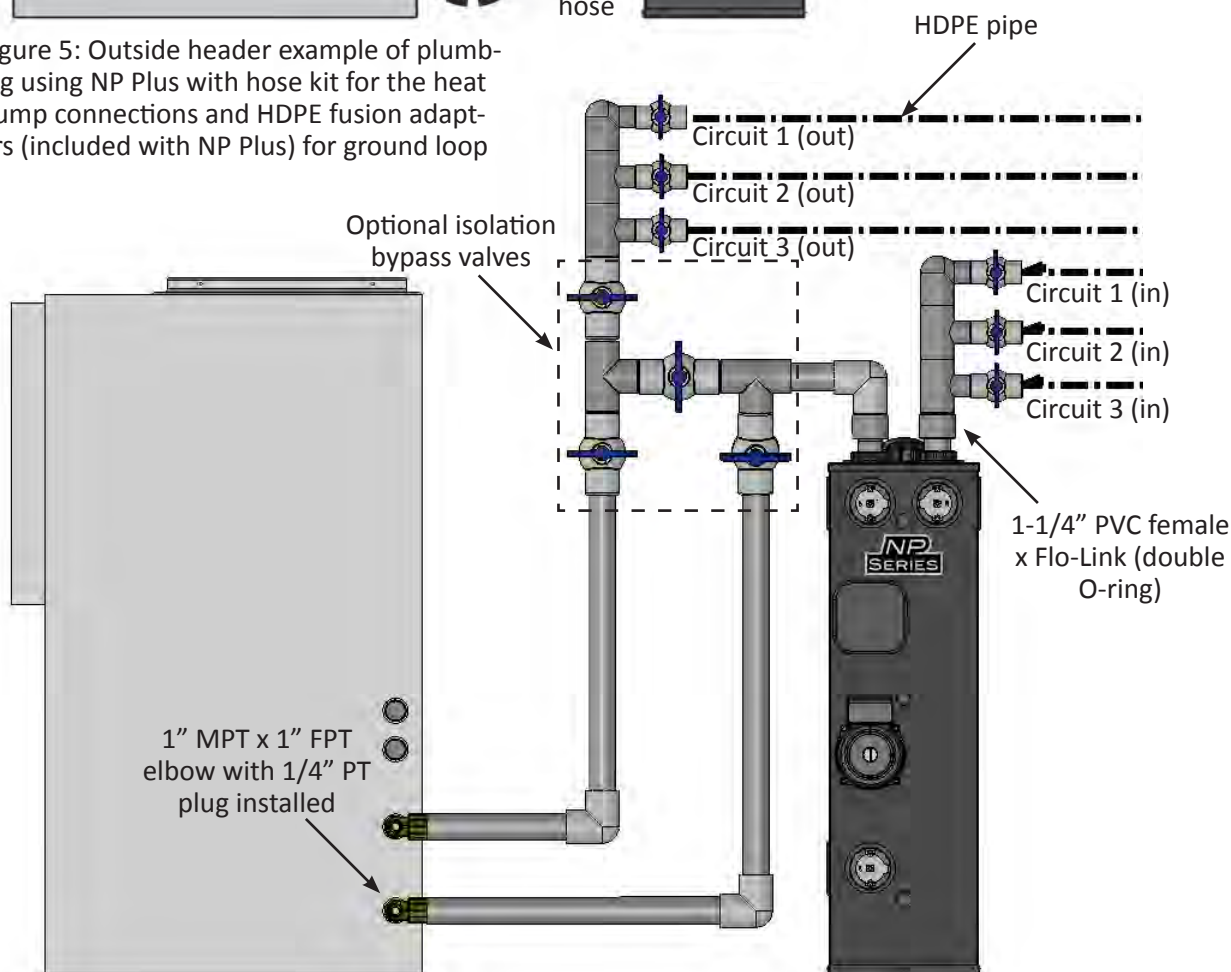

Figure 6: Inside header example of plumbing using NP Series with PVC for interior piping and inside headers
- **NP Flow Center:** The NP Flow Center (shown on the right) is the original product. With the introduction of the NP Plus (see below), the NP Flow Center is now better suited to installations with inside headers (see Figure 6). HDPE fusion, PVC glue, threaded adapters, and other types of Flo-Link fittings are available to connect the flow center to the header piping and heat pump. **The NP Flow Center does not ship with any fittings.**
Figure 5 shows a standard piping configuration utilizing HDPE and a flexible hose transition to the heat pump. This configuration allows simple installation, and vibration isolation between the heat pump and flow center. The external insulated 3-way valve (included with NP Plus) allows the heat pump to be isolated from the loop, and allows the loop to be flushed independent of the heat pump. This can be useful when the flow center is installed prior to the heat pump. Figure 6 shows a piping configuration utilizing PVC pipe and internal headers. The optional bypass valve(s) allow the ground loop to be isolated from the heat pump. In addition, they allow the ground loop to be flushed independent of the heat pump. Note that the options shown are valid whether inside or outside headers are used.
NOTE: If a Geo-Gooser tool is not available, the following procedure can still be followed. However, instead of adding fluid through valve #3, fluid will be added through the top of the tank. In this case, valve #3 will remain in the 9-o'clock position throughout the process. The following instructions assume the NP Flow Center has been plumbed as shown in Figure 6. If the flow center has been plumbed with discharge and/or return pipes in the sides of the flow center, the valve positions described will vary. It is important to understand the flow through the valves before proceeding. See the General Description on page 2 of this IOM for detailed description of the valves' operation.